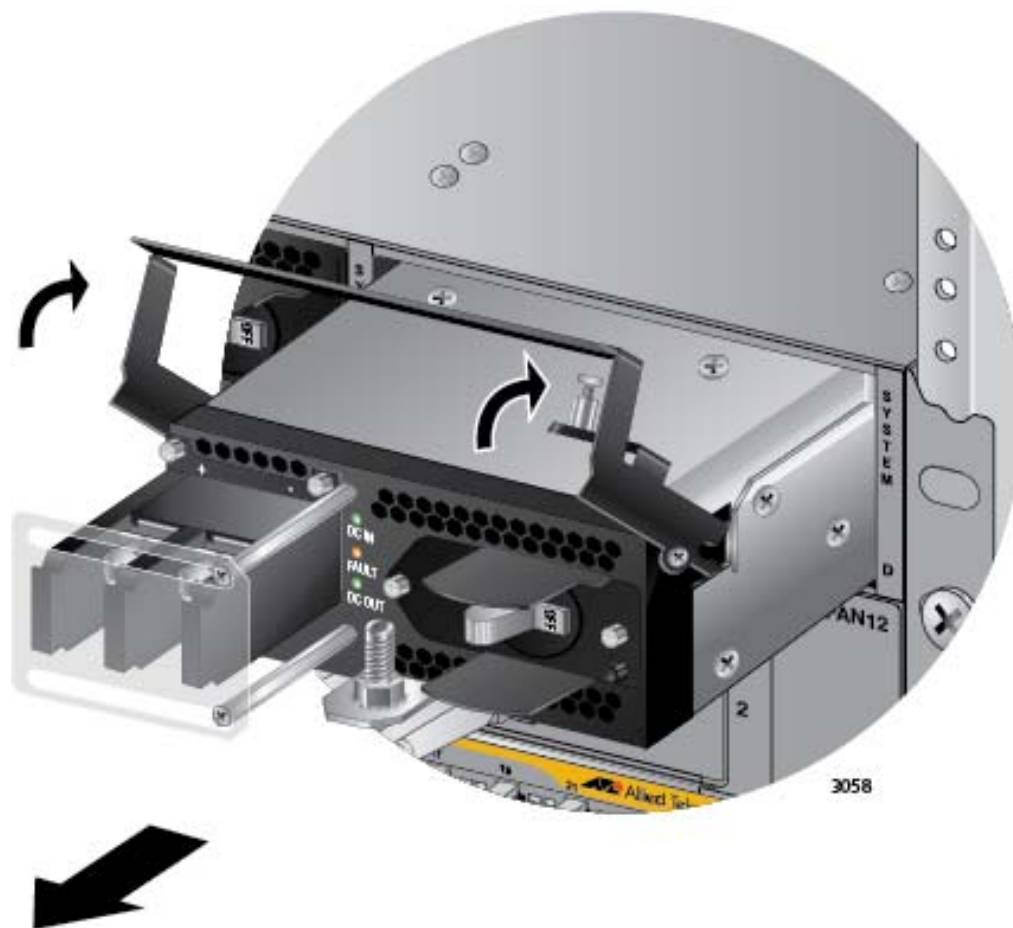

Figure 158. Lifting the Locking Handle and Removing the Power Supply
11. Lift the locking handle and slide the power supply from the chassis. Refer to Figure 158 on page 246.